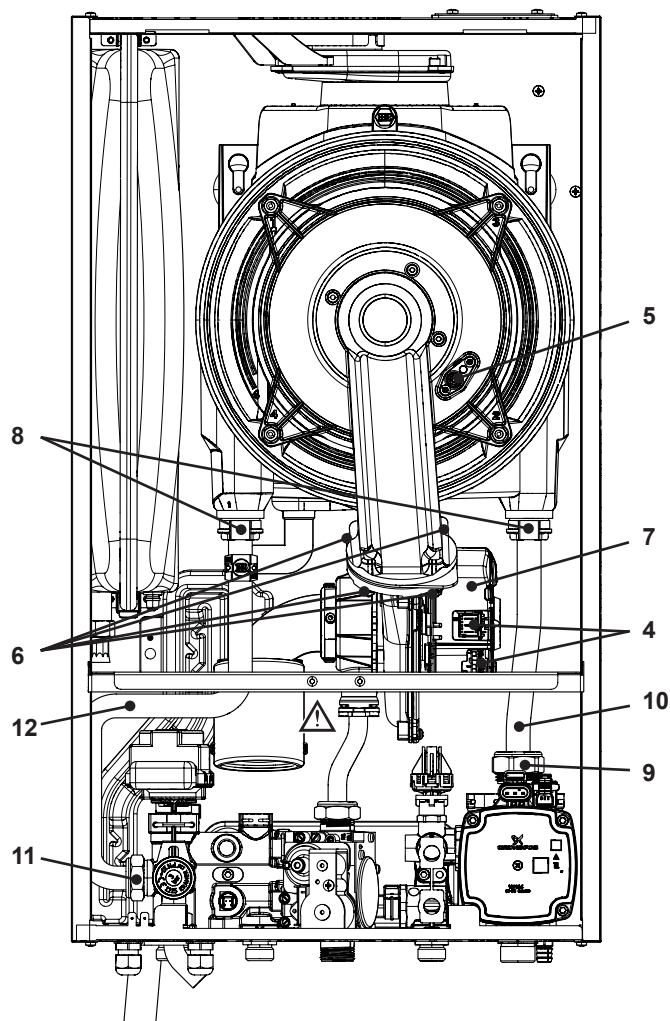

Figure 5.2
- 4 Disconnect the fan connector "4" by pressing the plastic hook placed on the side of the connector (Figure 5.2).
- 5 Unscrew the nuts "6" (Figure 5.2).
- 8 Remove the clips "8" (Figure 5.2).
- 9 Loosen the connection "9" and slightly move the pipe "10" upwards, turn it towards left (Figure 5.2) and then move the pipe downwards freeing it from the Condensing heat exchanger.
- 10 Loosen the connection "11" and slightly move the pipe "12" upwards, turn it towards left (Figure 5.2) and then move the pipe downwards freeing it from the Condensing heat exchanger.
Ensure to tighten the nuts "6" - Figure 5.2 firmly.